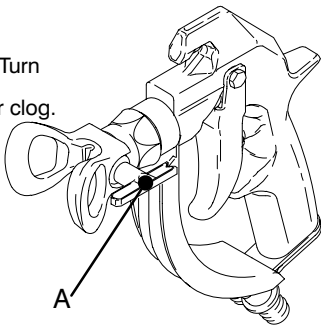

Fig. 4 \_\_\_\_\_
1. Engage the trigger safety latch. Rotate the RAC IV tip handle 180°. See Fig.4.